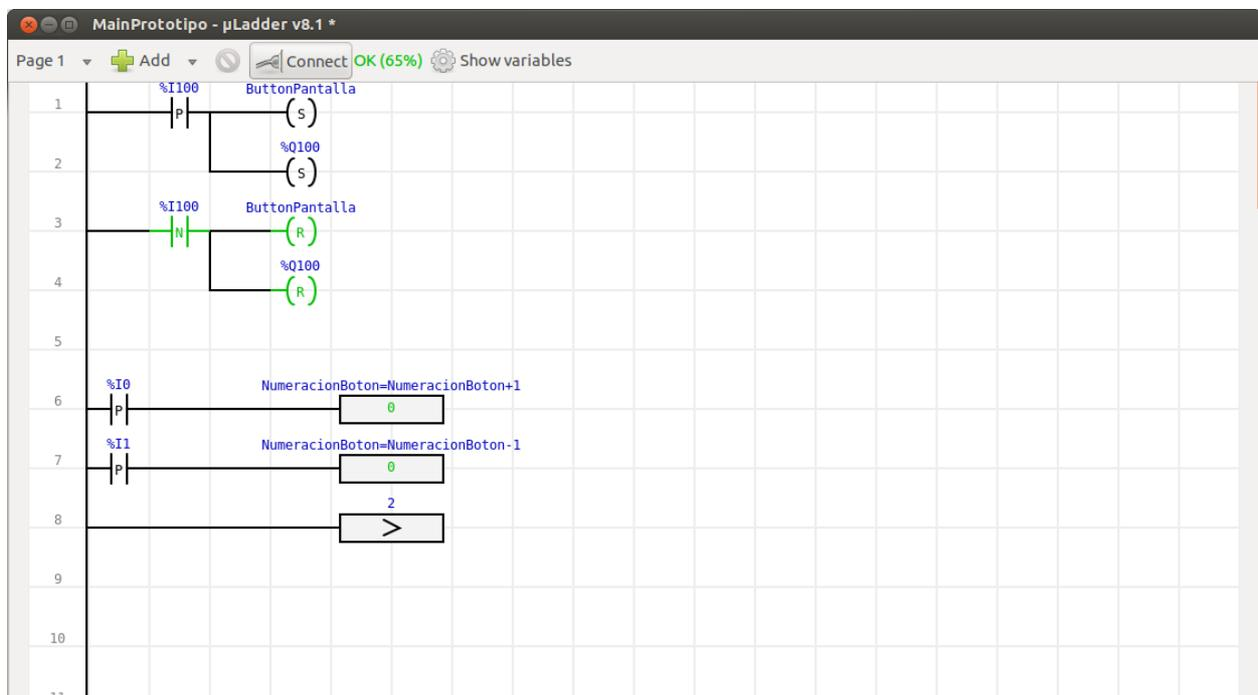

Figure 6. Screen capture of the µLadder main window with the PLC connected and communicating.
- A green message “OK” has appeared on the tool bar. Active instructions of the program appear painted in green as well (See Figure 6)